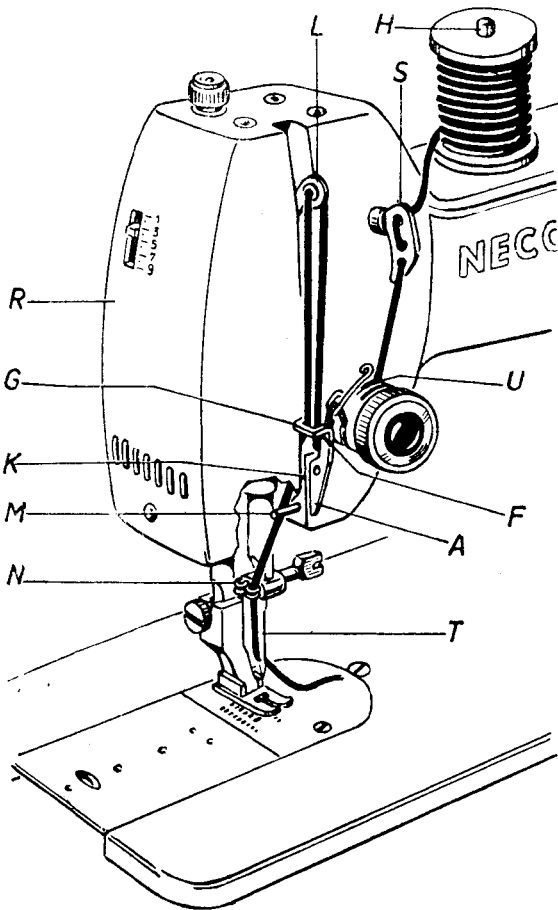

Fig. 7
- b. Place the spool of the thread on the spool pin « H » and run the thread through the thread guide « S » (see Fig. 7).
- c. Draw the thread down, then insert it from right to left in the slot of the tension disc housing « U ». Next, bring the thread up and then down over the thread take - up spring (Check Spring) « D » (see Figs. 7 and 7 a).
Fig. 7 a